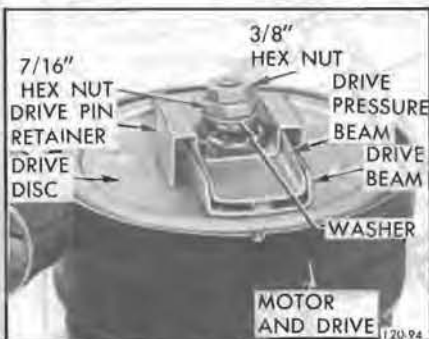

Figure 129-18—Antenna Drive - Cover Removed
11. Hold the 7/16" hex nut on the output gear assembly shaft, remove the 3/8" hex nut (see Figure 129-18).
13. Lift antenna pressure adjuster spring off shaft (see Figure 129-18).